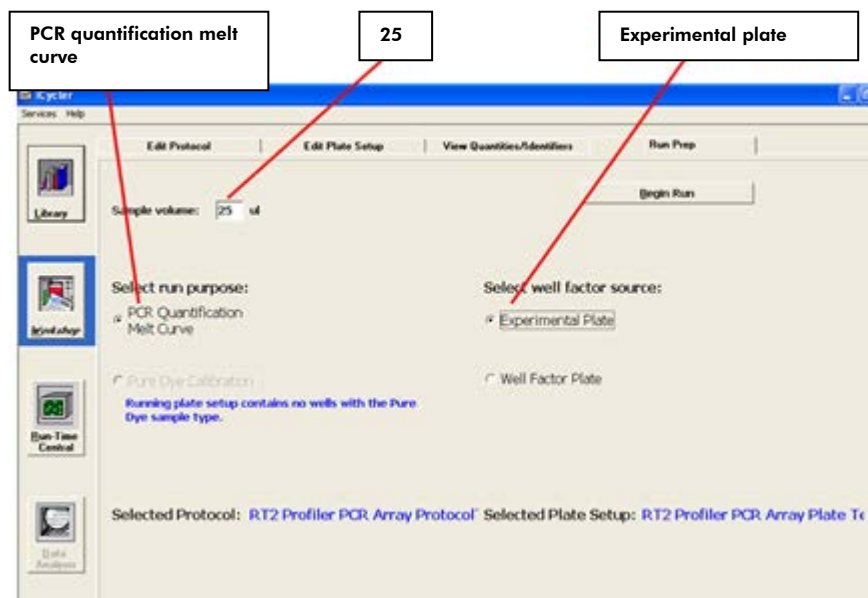

Figure 4. Plate run — running plate. .
5. In the "Library" module, click to open the "View Protocol" tab. Under "Protocol Files," click to highlight and load the previously saved "EpiTect ChIP PCR Array Protocol Template" file. Then click to open the "View Plate Setup" tab; under "Plate Setup Files," click to highlight and load the "EpiTect ChIP PCR Array Plate Setup Template" file. Click "Run with Selected Protocol" to initiate the run with the selected plate setup and indicated protocol. This will lead you to the "Run Prep" tab in the "Workshop" module (see Figure 4). Enter the reaction volume (25 μ l) for the "Sample volume." Select "Experimental Plate" under "Select Well Factor Source." When ready, click on "Begin Run." A "Save" dialog box will open. Enter a name for the optical data file (*.opd).